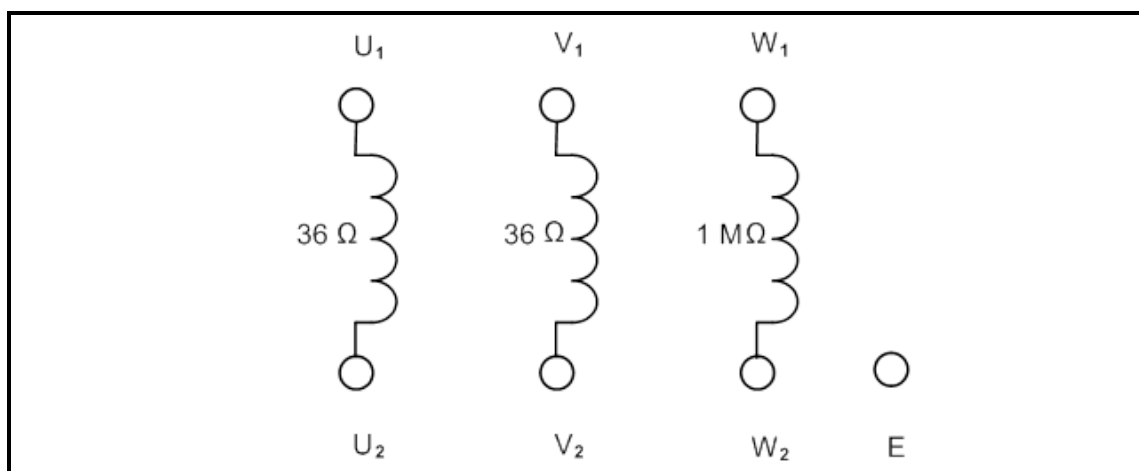

FIGURE 4.3: STATOR WINDINGS OF A THREE-PHASE INDUCTION MOTOR
4.3 Refer to FIGURE 4.3 below and answer the questions that follow.
- 4.3.1 Consider the readings of the windings in FIGURE 4.3 and describe the fault. (2)